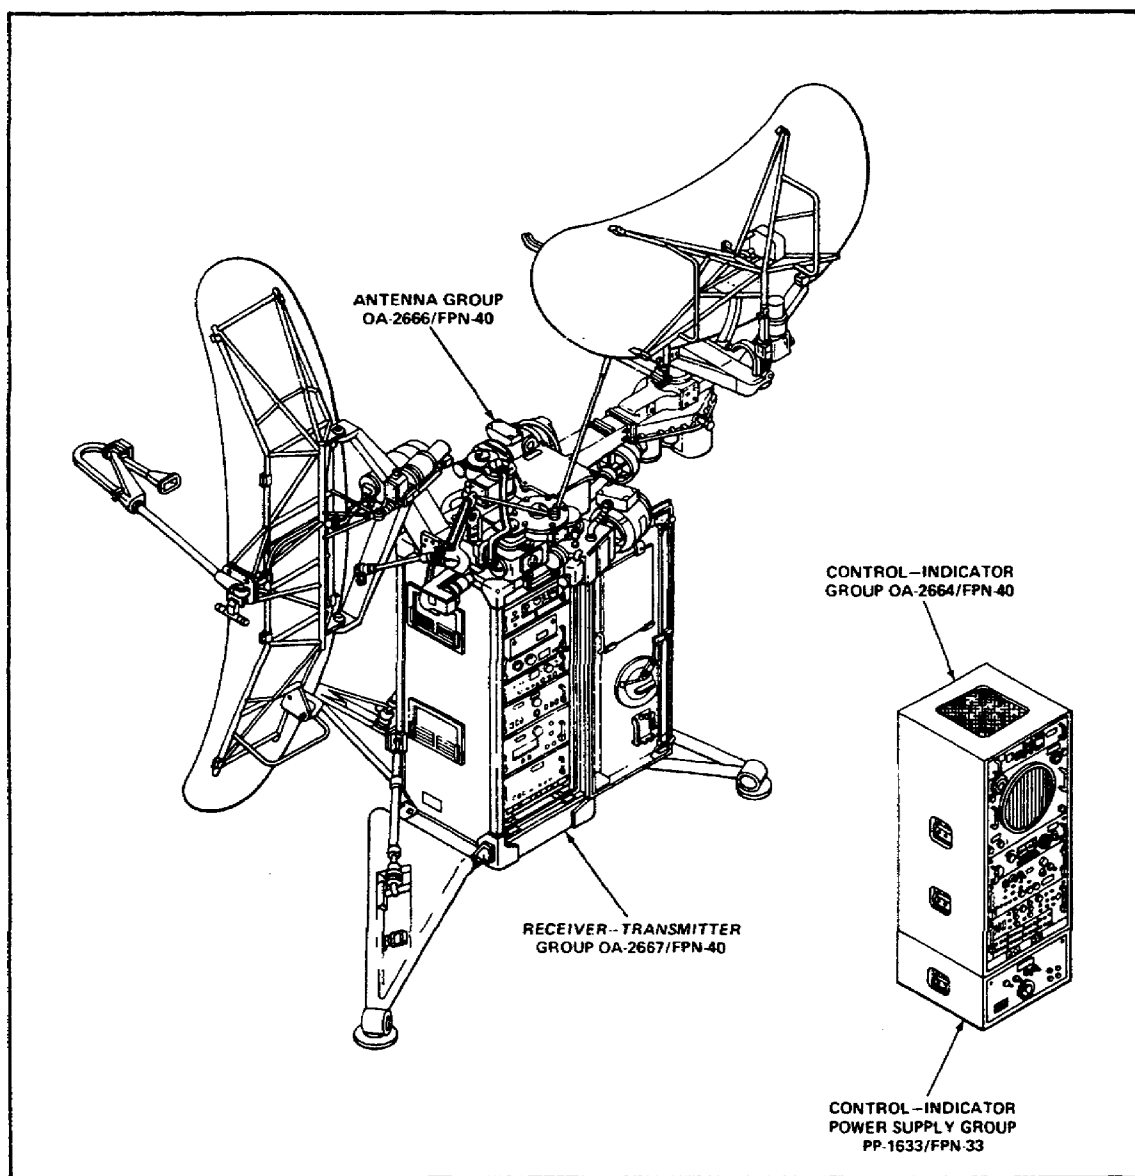

Figure 24. Radar set AN/FPN-40.
- a. Locate the control indicator group OA-2664/FPN-40 on radar set AN/FPN-40. (See Figure 24.)